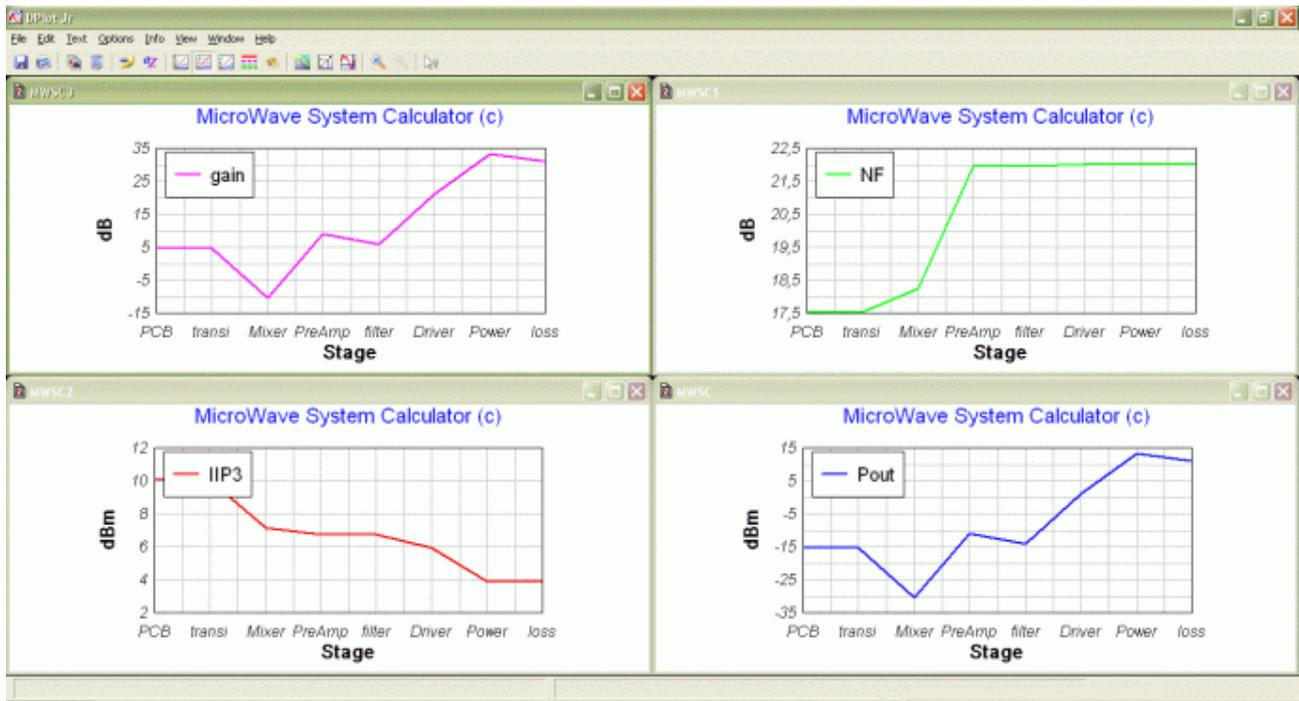

Figure 2: Mystic output displayed by dPlot
- The right window is the graphical representation of the main system parameters (see Figure 2). Graphical output is provided by the use of the software *dPlot jr*. After analysis you can decide to close this window and to get new graphs or to leave it opened so you can check performance changes resulting from your latest ones in the input data file (for more details please refer to par. 1.4).
- output plots related to main output quantities (see Figure 2)